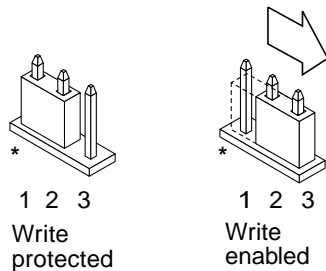

FIGURE 4-4 Setting the Write-Protect/Enable Jumper to the Write-Enable Position
6. Set the J2003 write-protect/enable jumper to pins 2 and 3 jumpered (write enabled) using needlenose pliers (see FIGURE 4-4). Pin 1 is noted by an asterisk (*).